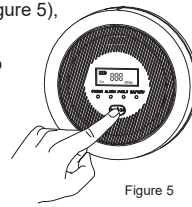

Figure 5
2) Alarm Mute: on activation of CO alarms below 300ppm, press 'Test' button to mute(refer to Figure 5), Mute function lasts about 10mins.